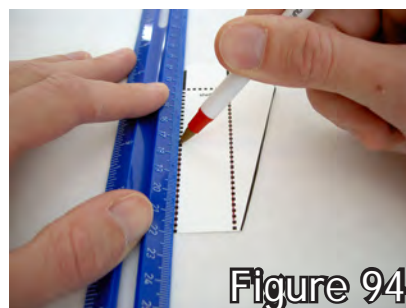

Figure 94
2. Trace along the dotted lines with a ball point pen to score the paper. (fig. 94)